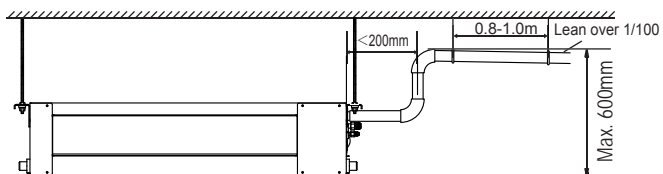

Fig.8-2
- In case the drainpipe outlet is higher than pumping connective pipe of the main body, the drainpipe must be arranged upwards vertically by using connective assembly of the water outlet for vertical bending, and the height of the drainpipe shall set to the defrosting pan surface no more than 600 mm , otherwise, too much backflow while shutdown would leads to overflow (Refer to Fig. 8-2). (Only available for the unit with pump.)